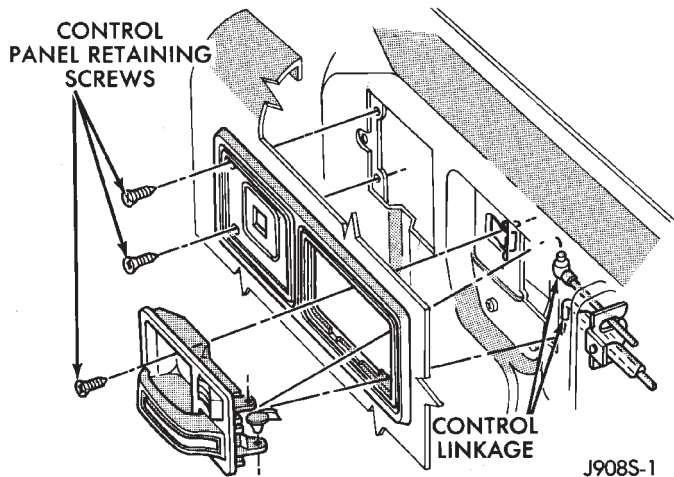
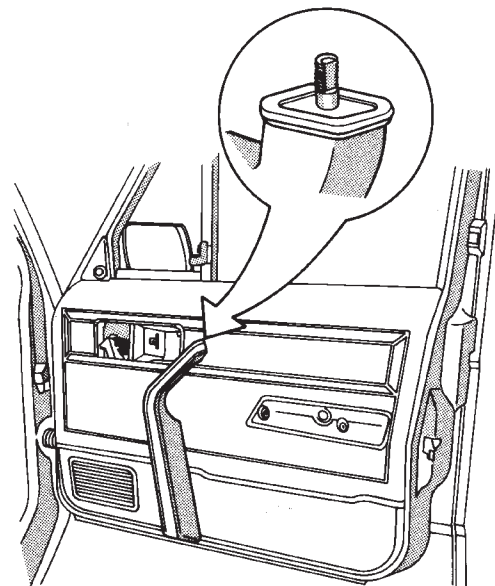
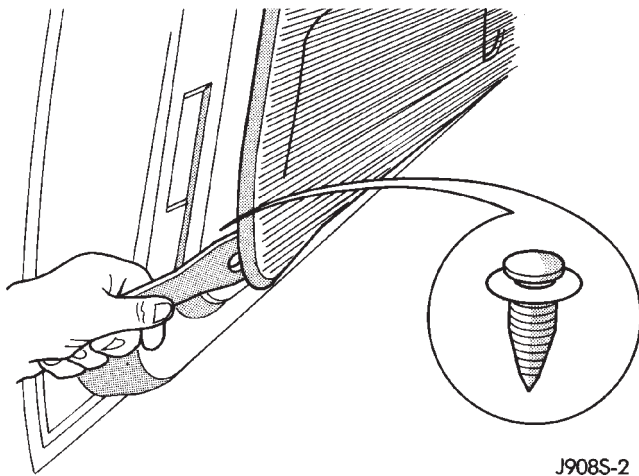

Fig. 2 Power Window/Lock Control Panel Removal/Installation
Fig. 4 Armrest Retainer Clip
Fig. 5 Trim Panel Removal
(1) Remove the interior door latch release assembly and control panel retaining screws (Fig. 2).
(1) Remove interior door latch release assembly and control panel retaining screws (Fig. 2).
(2) Disconnect control linkage and wire harness connector.
(3) Remove latch release and control panel assembly.
(4) Remove armrest lower retaining screws.
(5) Swing armrest downward to a vertical position. This is necessary to disconnect armrest from upper retainer clip (Fig. 4).
(6) Pull armrest straight out from trim panel.
(7) Remove trim panel with a wide flat blade tool (Fig. 5).